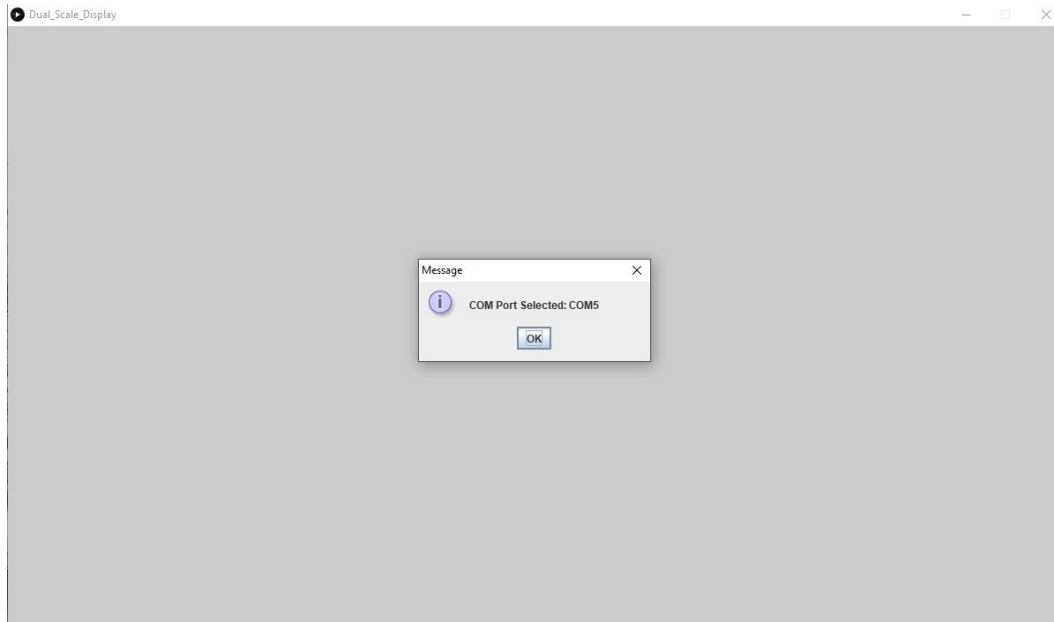

Figure 1. Com Port Select Dialog
4. Start the graphical display software by clicking on the RUN arrow. The COM Port select dialog pop-up is displayed as shown in Figure 1.